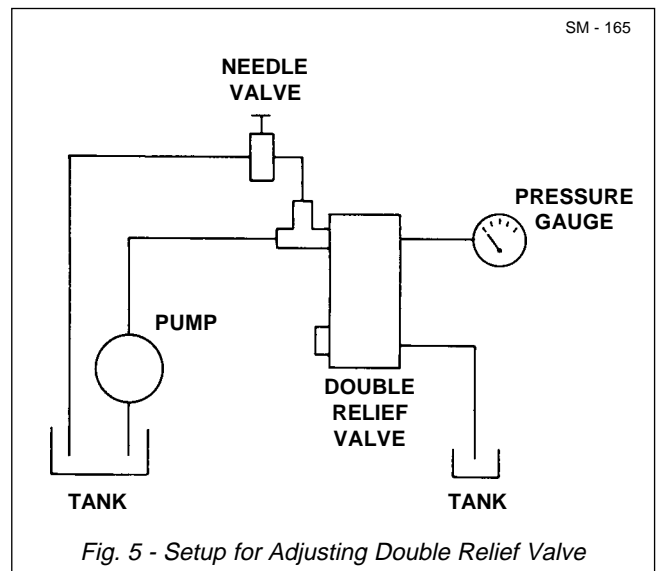

Fig. 5 - Setup for Adjusting Double Relief Valve
1. Using adjusting setup as shown in Fig. 5, install a 0 - 207 bar (0 - 3 000 lbf/in²) pressure gauge in one side of port 'B' and a tee in the opposite side of port 'B'.
5. Open the needle valve and start the pump. Gradually close the needle valve. If oil is discharged through port 'A' before relief pressure is reached, turn adjustment screw (7) in until discharge stops. Continue closing the needle valve and turning adjustment screw (7) until discharge through port 'A' occurs at relief pressure.